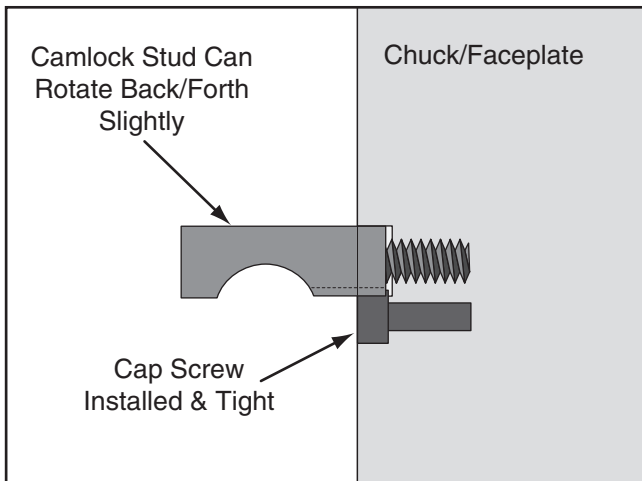

Figure 37. Camlock stud and locking cap screw correctly installed.
- Install and fully thread the locking cap screws. Make sure that the camlock studs can rotate slightly back-and-forth against the head of the locking screw (see **Figure 37**).